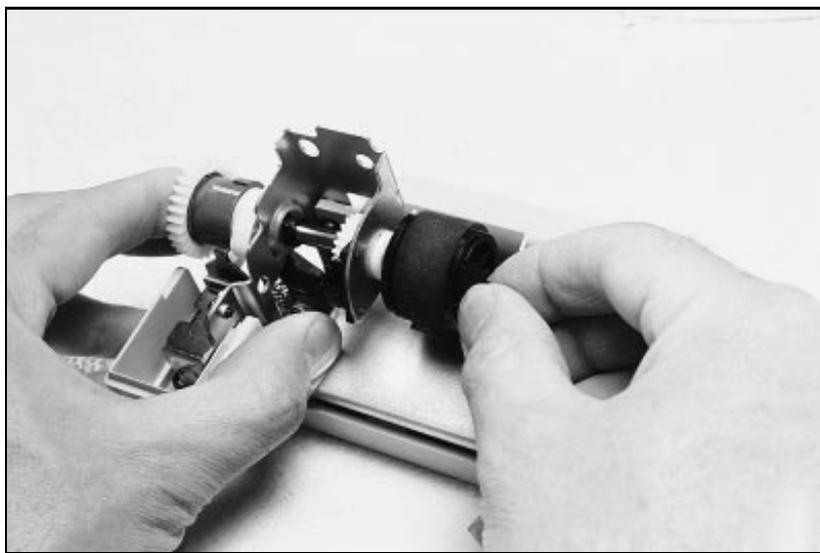

Figure 23 Replacing the Pickup Roller
7. To remove the roller from the pickup assembly, grasp the tabs on the right end of the roller and slide it to the right (shown in Figure 23).